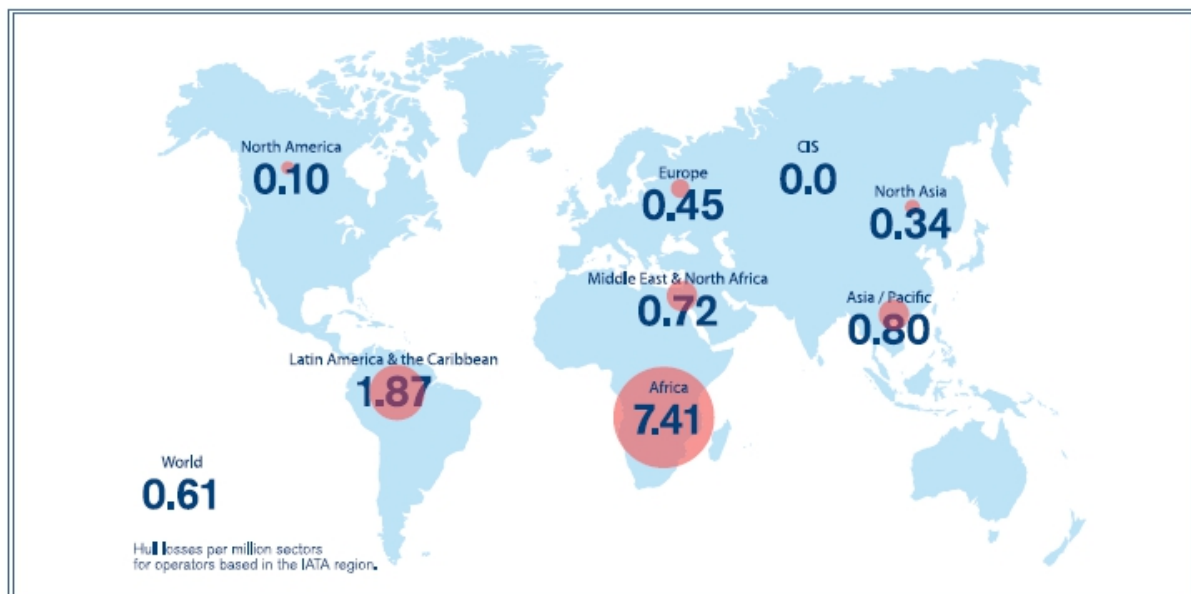

Figure 22: Example accident rate by region 2010 [4]
- Accident rates, in our case hull losses and severe damages per 1 Mio departures. The data can be shown by geography, to point out areas which need to be improved (Figure 22)